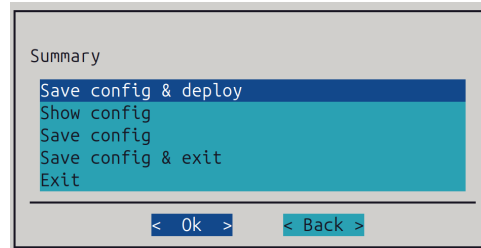

Figure 2.12: NetQ deployment: saving and deploying the configuration
12. The configuration is saved and deployed (figure 2.12):